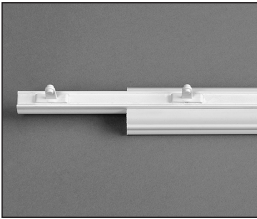

Figure 1
2. To stabilize the tilt bar, insert front-side down into channel of vinyl track (*fig. 1, next page*).